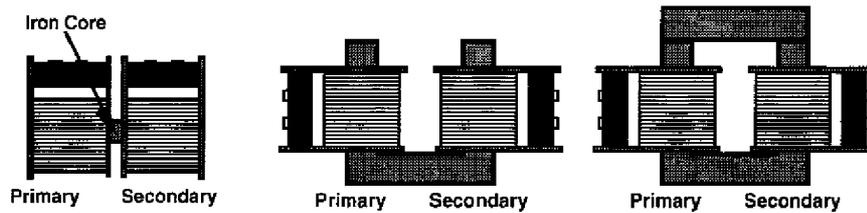

Figure 17.2:
3. Repeat step 2 after inserting the straight cross piece from the top of the U-shaped core. Record your result. (See Figure 17.2.)